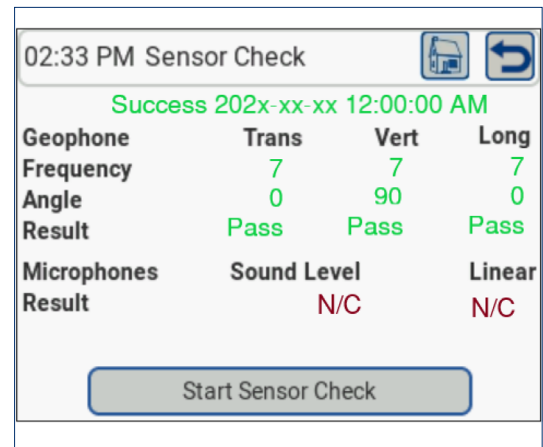

Figure 7
2. Run Sensor Check: Press the sensor check button on the keypad or touchscreen. If the installation is good, the device will confirm that sensors are ready for monitoring by displaying a message indicating that sensors “passed”. (See: Figure 7) If any fail, verify the connection and try again.